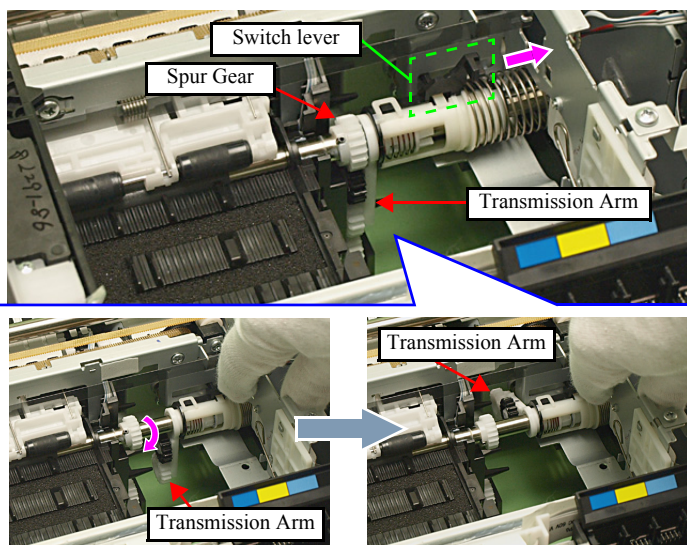

Figure 4-88. Installing the Ink System (2)
6. Push the switch lever in the direction of the arrow and turn the spur gear (see Fig. 4-88), then align the Transmission Arm to the position A (Ink System operation point) shown in Fig. 4-89.